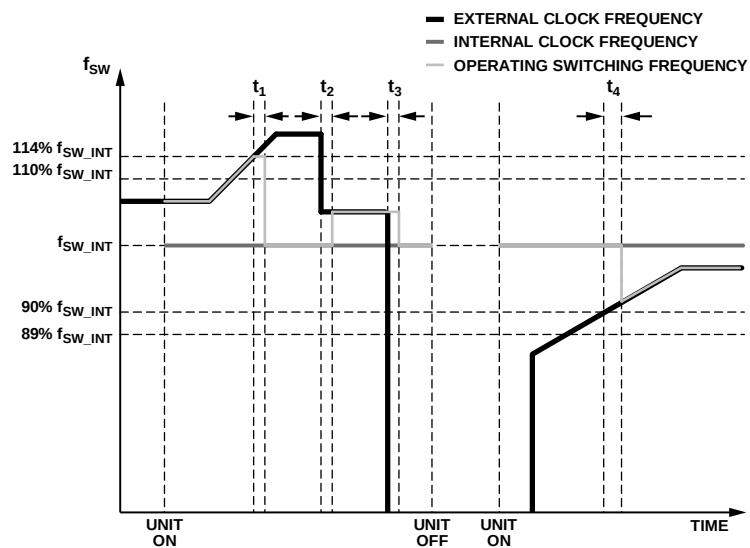

Figure 17. Synchronization Operation
2. If all the periods of the consecutive 64 most recent cycles of the external clocks fall within 90% to 110% of the internal switching clock period, the ADP1051 uses the latest current cycle as the synchronization reference, and the period of the external clock is identified. This interval is t_2 or t_4 , as shown in Figure 17. Otherwise, the ADP1051 discards this cycle and looks for the next cycle (frequency capture mode).
At the same time, the phase shift between the synchronization reference and the internal clock is detected. When the phase shift falls within the phase capture range, the PWM clock returns to the internal clock set by the internal oscillator. This interval is t_1 or t_3 , as shown in Figure 17.
Figure 17 shows the synchronous operation diagram. The internal frequency, f_{SW_INT} , is the internal free-running frequency of the ADP1051. Before the synchronization is locked, the ADP1051 runs at f_{SW_INT} . The external frequency, f_{SW_EXT} , is the frequency of the external clock that the ADP1051 needs to synchronize. After synchronization is locked, the ADP1051 runs at f_{SW_EXT} .